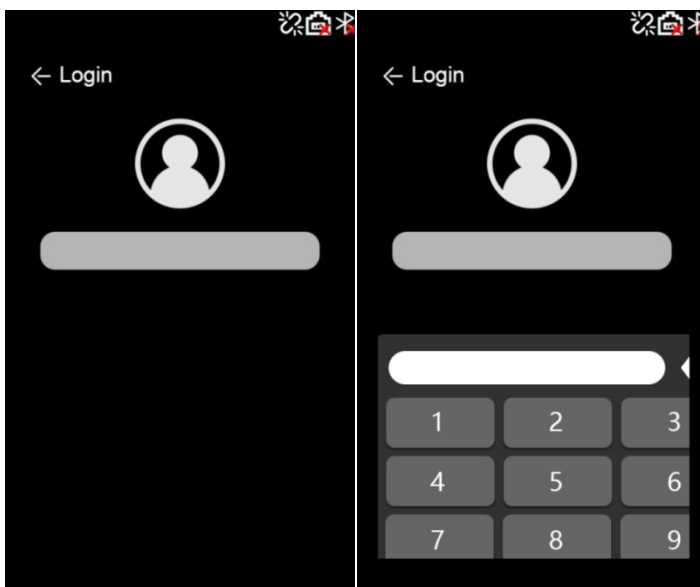

Fig. 6-5 Display of Keyboard
■Click the settings icon three times to enter the settings interface, the picture displayed on the LCD screen is shown in Fig. 6-5.